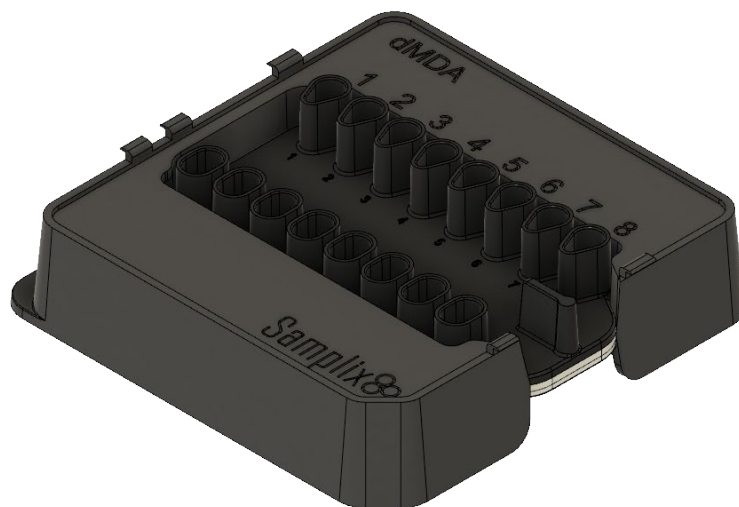

Fig. 5.3. The assembled dMDA cartridge with holder (dark grey) and dMDA cartridge (black) inserted.
4. Place the dMDA cartridge in the groove of the dMDA holder as shown in Fig 5.3. Inlet wells are placed closest to the numbers on the holder while the collection wells are placed closest to the side with the Samplix logo.